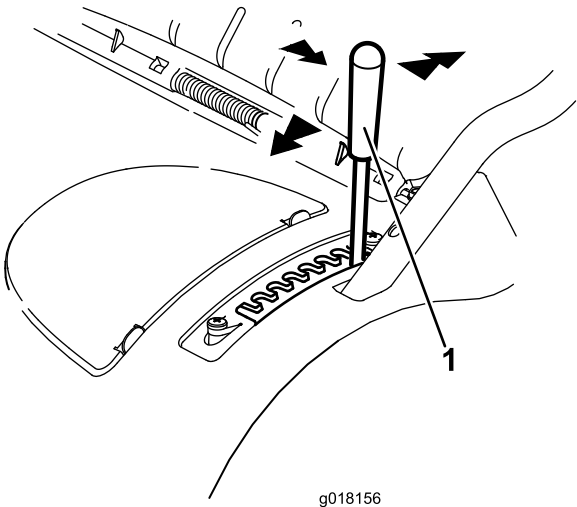

Figure 11
- 1. Grip the lever and pull sideways to disengage it from the locking notch (Figure 11).
- 2. Push the lever forward to lower or pull it backward to raise the height of cut (Figure 11).
- 3. Release the lever at the required position and ensure that it locks firmly into 1 of the 8 setting notches (Figure 11).